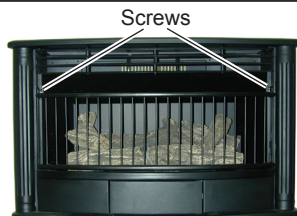
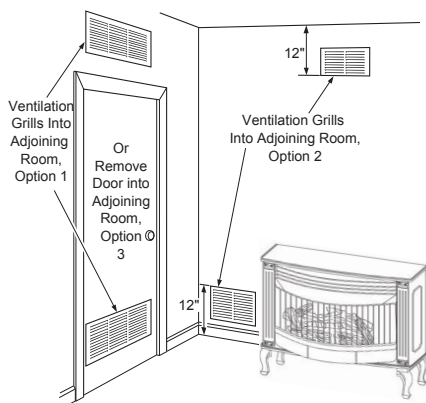

Figure 2 - Removing Screen
Figure 4 - Ventilation Air from Inside Building
1. Remove two screws in the upper corners of the screen (one on each side, see Figure 2). Lift and pull forward to remove.
This fresh air would come from an adjoining unconfined space. When ventilating to an adjoining unconfined space, you must provide two permanent openings: one within 12" of the ceiling and one within 12" of the floor on the wall connecting the two spaces (see options 1 and 2, Figure 2). You can also remove door into adjoining room (see option 3, Figure 4). Follow the *National Fuel Gas Code, ANSI Z223.1/NFPA 54, Air for Combustion and Ventilation* for required size of ventilation grills or ducts.